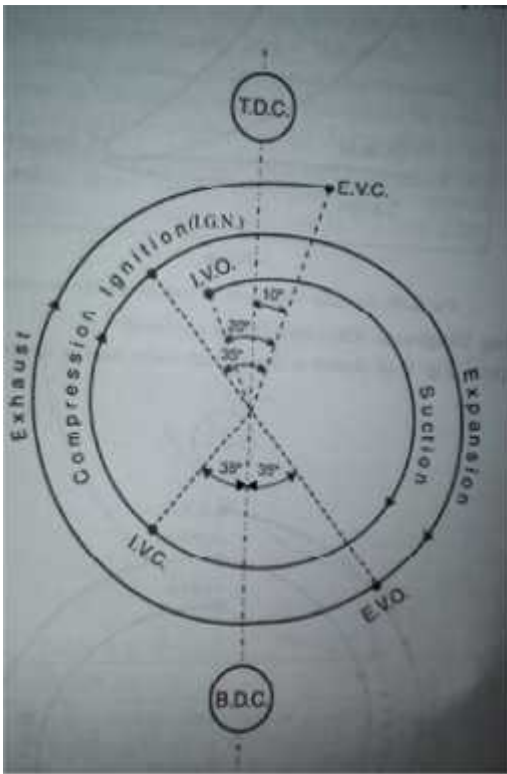

**Fig: 4**
The details of various processes of a four-stroke spark-ignition engine with overhead valves are shown in Fig: 3 (a-d). When the engine completes all the five events under ideal cycle mode, the p-V diagram will be as shown in fig:4
**Suction or Intake Stroke:** Suction stroke 0—1 (Fig: 4) starts when the piston is at the Top Dead Centre and about to move downwards. The inlet valve is open at this time and the exhaust valve is closed, Fig: 3(a). Due to the suction created by the motion of the piston from Top Dead Centre (T.D.C.) to Bottom Dead Centre (B.D.C.), the charge consisting of fuel-air mixture is drawn into the cylinder. When the piston reaches the bottom dead centre, the suction stroke ends and the inlet valve closes.
**Compression Stroke:** The charge taken into the cylinder during the suction stroke is compressed by the return stroke of the piston 1—2 (adiabatic compression), (Fig: 4). During this stroke both inlet and exhaust valves are in closed position, Fig: 3(b). The mixture which fills the entire cylinder volume is now compressed into the clearance volume. At the end of the compression stroke the mixture is ignited with the help of a spark plug located on the cylinder head.
In ideal engines it is assumed that burning takes place instantaneously when the piston is at the Top Dead Centre and hence the burning process can be approximated as heat addition at constant volume (process 2-3) Fig:4. During the burning process the chemical energy of the fuel is converted into heat energy producing a temperature rise of about  $2000^\circ\text{C}$  (process 2—3), Fig: 4. The pressure at the end of the combustion process is considerably increased due to the heat release from the fuel.
**Expansion or Power Stroke:** The high pressure of the burnt gases forces the piston towards the BDC. Both the valves are in closed position, Fig: 3(c). Of the four- strokes only during this stroke power is produced and pressure and temperature decreases in expansion (process 3—4) Fig:4.
**Exhaust Stroke:** At the end of the expansion stroke the exhaust valve opens and the inlet valve remains closed, Fig. 3(d). The pressure falls to atmospheric level a part of the burnt gases escape. The piston starts moving from the Bottom Dead Centre to Top Dead Centre (stroke 1—0), Fig. 4 and sweeps the burnt gases out from the cylinder almost- at atmospheric pressure. The exhaust valve closes when the piston reaches *TDC*. at the end of the exhaust stroke and some residual gases trapped in the clearance volume remain in the cylinder.